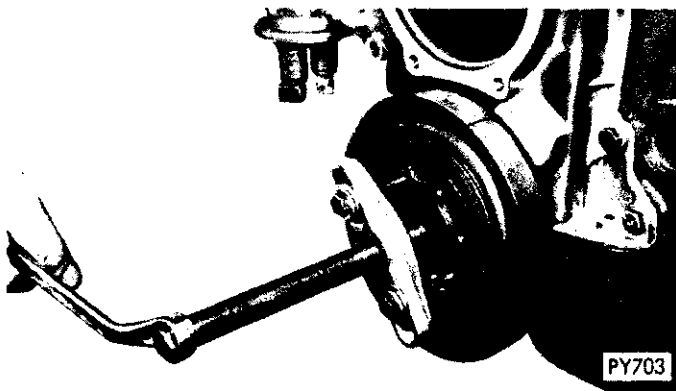

Fig. 21—Removing Vibration Damper Assembly
- (1) Drain cooling system and remove radiator, fan belt and water pump assembly.
- (2) Remove pulley from vibration damper and bolt and washer securing vibration damper on crankshaft.
- (3) Install Tool C-3688 and pull vibration damper from end of crankshaft (Fig. 21).
- (4) Remove fuel lines and fuel pump.
- (5) Loosen oil pan bolts and remove the front bolt at each side.
- (6) Remove chain case cover and gasket using extreme caution to avoid damaging oil pan gasket.